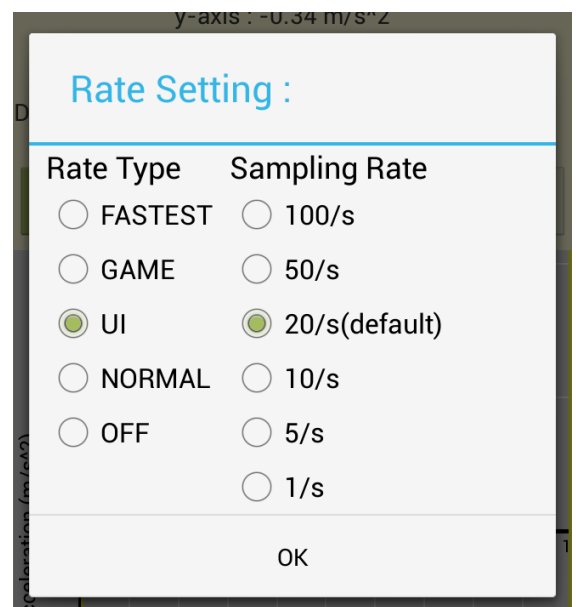

Fig 4.8
3. Setting: There are two parameters to be set (Fig 4.8).
- i. Rate Type: Sampling rate (SR) of **sensor** listed in descending order FASTEST>GAME>UI>NORMAL. The default sampling rate is UI, which is usually 15Hz.